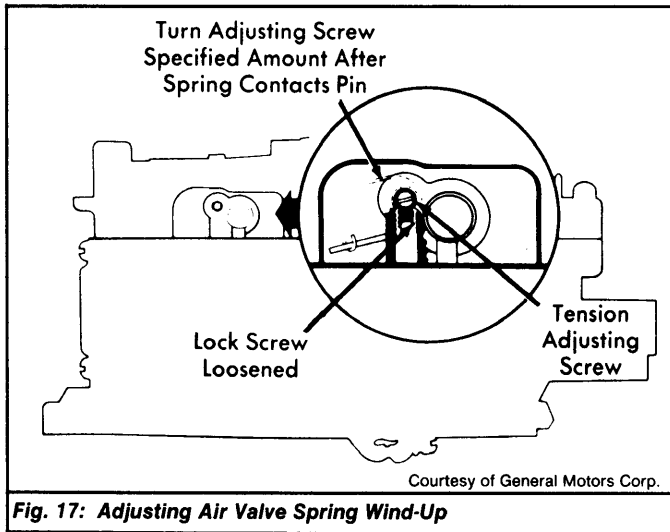

Fig. 17: Adjusting Air Valve Spring Wind-Up
1) Remove vacuum break diaphragm and air valve dashpot rod. Using an Allen wrench, loosen lock screw. Turn tension adjusting screw counterclockwise until air valve partially opens. See Fig. 17.